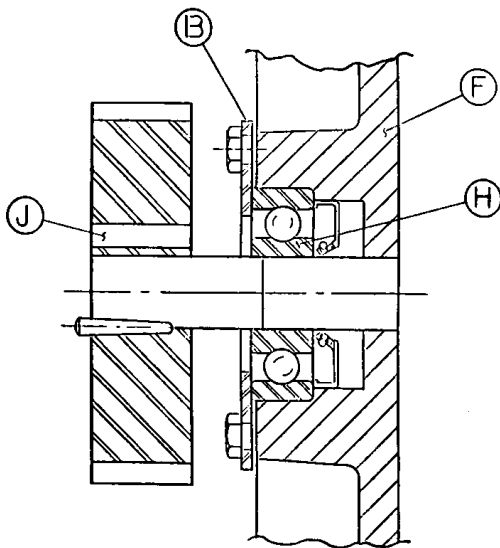

FIGURE 23
Refer to FIGURE 23, page 21. The outer races of the gear end bearings are clamped against the headplate (F) by the bearing retainer (B).